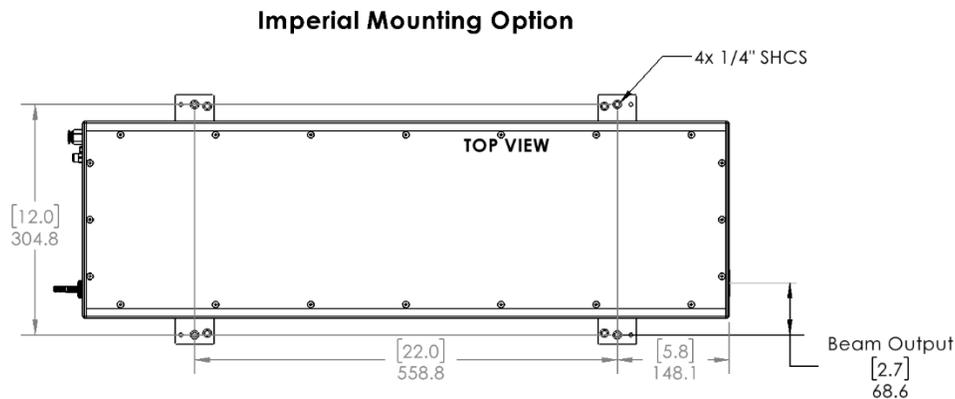

Figure 4.1-1 Top Mounting - Imperial
- (1) top-mounted using the provided mounting feet using imperial hardware, as in Figure 4.1-1